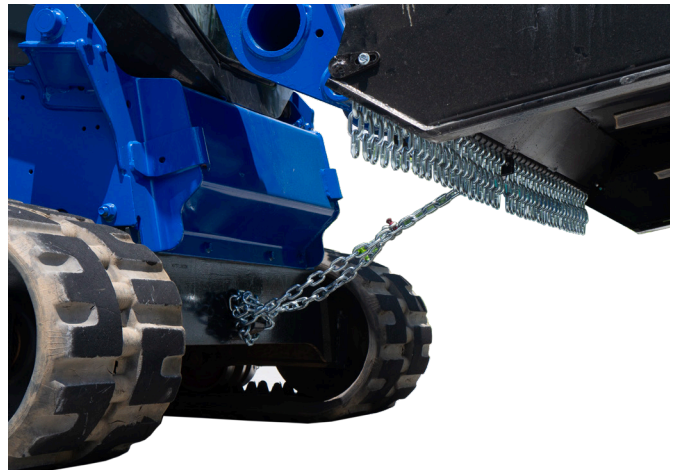

Figure 1
- Inspect the safety chain for damage. Not all machines will attach the same; see Figure 1 for an example of how a chain might attach.